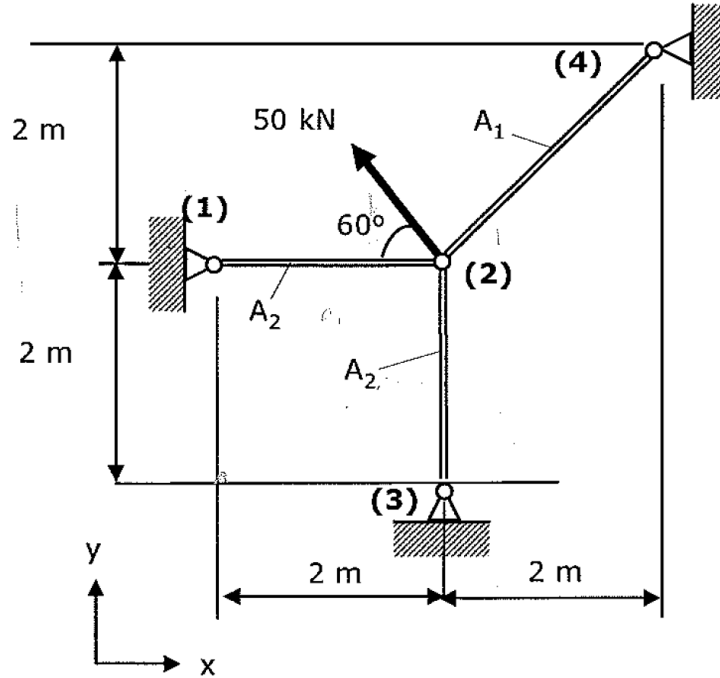

Figure Q1
- Q1. Figure Q1 shows a frictionless pin-jointed structure consisting of three members. Pin-joints 1, 3, and 4 are fixed to rigid surfaces as shown in Figure Q1. A point force of 50 kN is applied to pin-joint 2 at an angle of 60° as shown. All members have a cross-sectional area of either A_1 (150 mm^2) or A_2 (200 mm^2). Young's modulus for all members is 200 GN/m^2 .